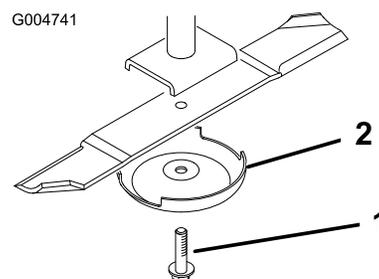

Figure 92
- Grasp the end of the blade using a rag or thickly padded glove. Remove the blade bolt, anti-scalp cup, and blade from the spindle shaft (Figure 92).